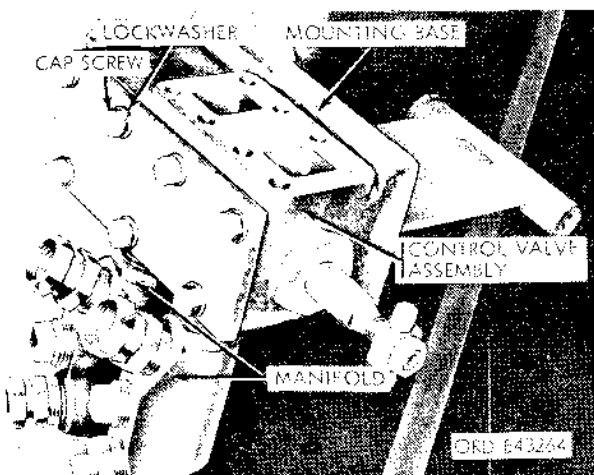
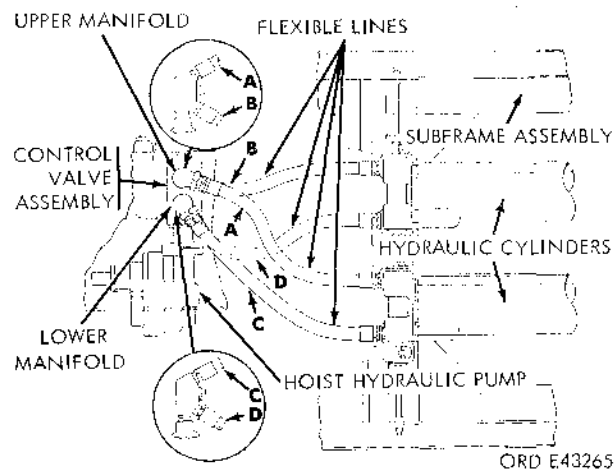

Figure 2-223. Removing control valve assembly.
Figure 2-224. Hoist assembly flexible lines.
(4) Disconnect the four hydraulic flexible lines from the manifolds (fig. 2-223) installed in the control valve outlet ports.
(5) Remove the eight cap screws (fig. 2-223) and lockwashers securing the control valve assembly to the mounting base. Remove the valve from the base.
(1) Position the control valve assembly (fig. 2-223) on the mounting base at the rear of the reservoir, and secure it with eight cap screws and lockwashers.
(2) Connect the four hydraulic flexible lines to the manifolds (fig. 2-223) installed in the control valve ports. Refer to figure 2-224 when connecting the lines.
#### a. Removal (fig. 2-224).
#### b. Installation (fig. 2-224).